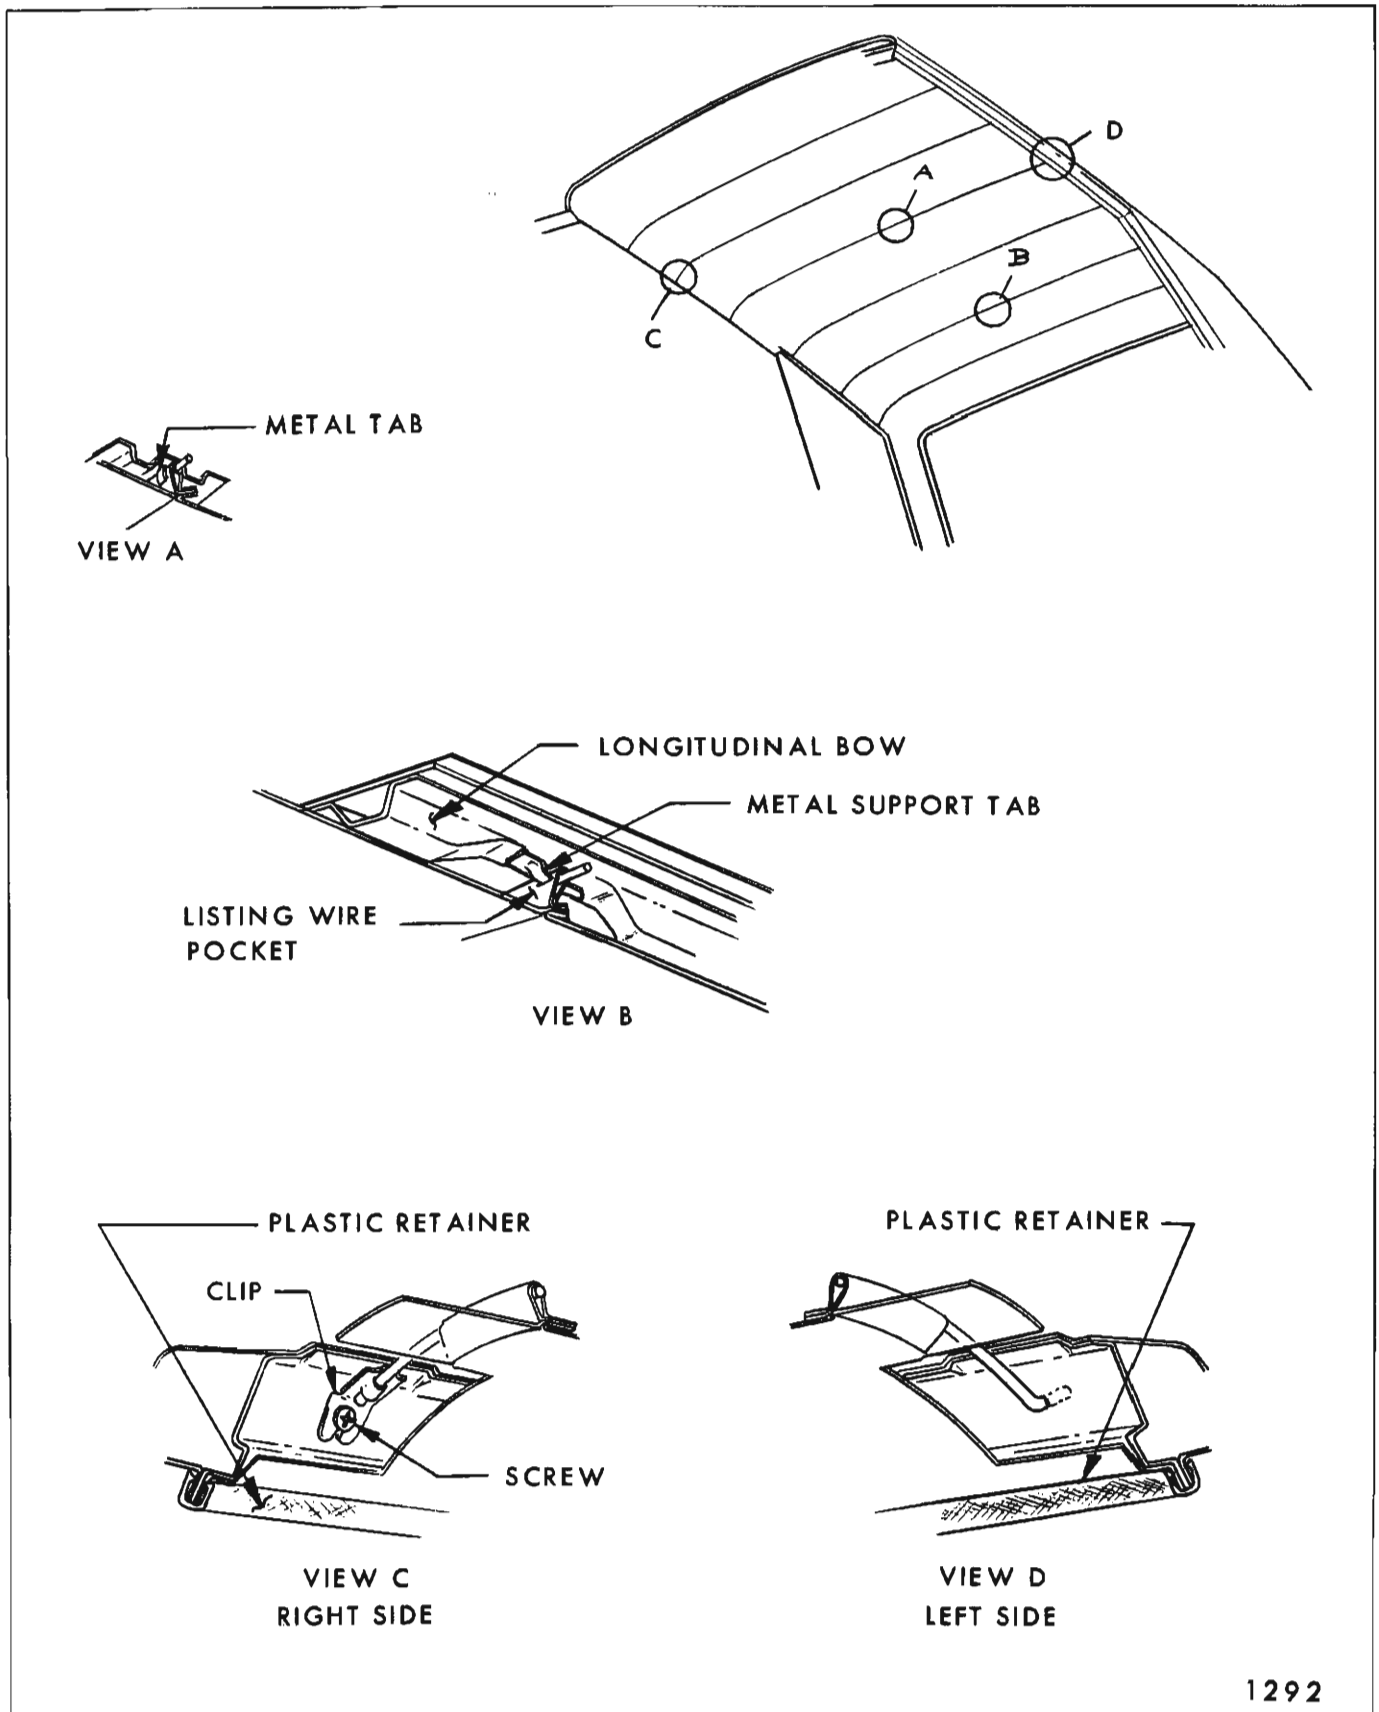

Fig. 2G3—Headlining Installation - "27" and "37" Styles Only
5. Lift headlining assembly into body and install rear listing wires into side roof rails except "27" and "37" styles. (View "E" Fig. 2G1, and Fig. 2G2). On "27" and "37" styles, install No. 3 listing wire over metal tab on roof bow (View "A" Fig. 2G3). Be certain headlining is centered in body.